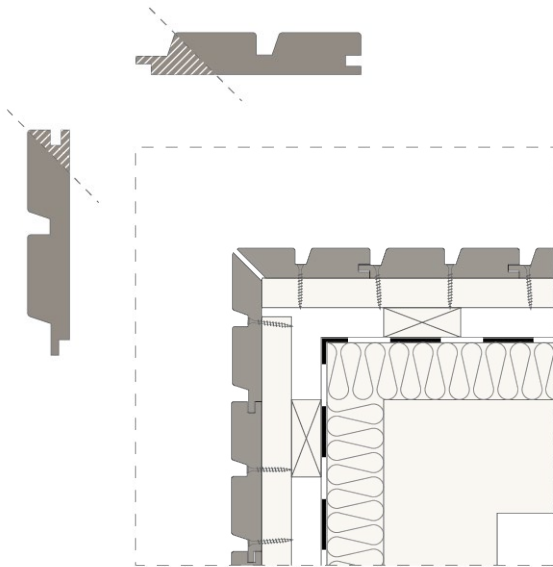

Fig. 1: External corner finishing by cutting the board edges at a 45° angle
- by cutting the board edges at a 45° angle (see Fig. 1; 2)